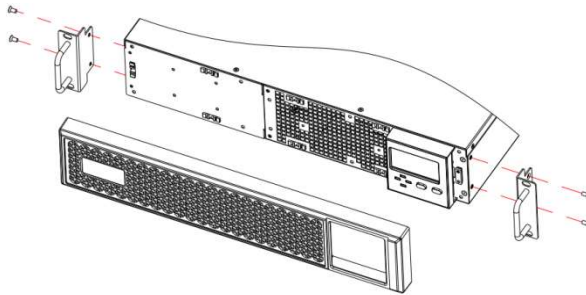

Fig.4-2 Removing the front plastic bezel cover
1. Remove the front plastic bezel cover gently and remove two brackets screws, as shown in Fig.4-2.